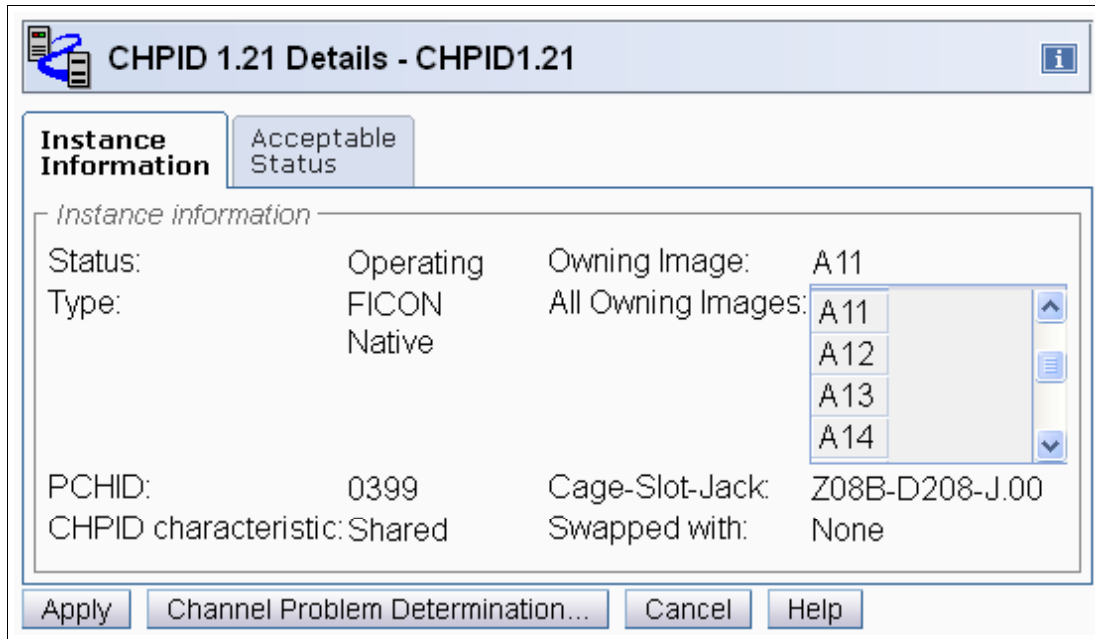

Figure 7-54 HMC CHPID details for 1.21
2. The CHPID Details panel provides information that is similar to the PCHID details panel. To display the CHPID details, select the channel list for an LPAR from the Support Element. Refer to Figure 7-54 on page 241.